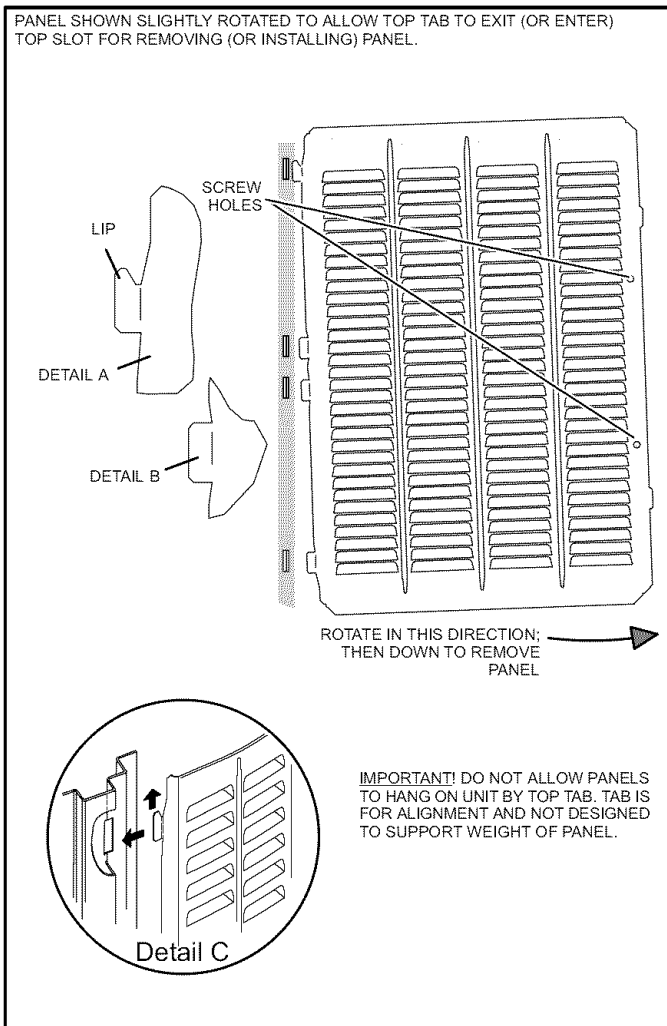

Figure 12. Removing/Installing Louvered Panels (Details A, B and C)
1. Remove two screws, allowing the panel to swing open slightly as illustrated in figure 12.
2. Rotate bottom corner of panel away from hinge corner post until lower three tabs clear the slots as illustrated in figure 12, detail B.
3. Move panel down until lip of upper tab clears the top slot in corner post as illustrated in figure 12, detail A.
2. With a continuous motion slightly rotate and guide the lip of top tab inward as illustrated in figure 12, details A and C, then upward into the top slot of the hinge corner post.